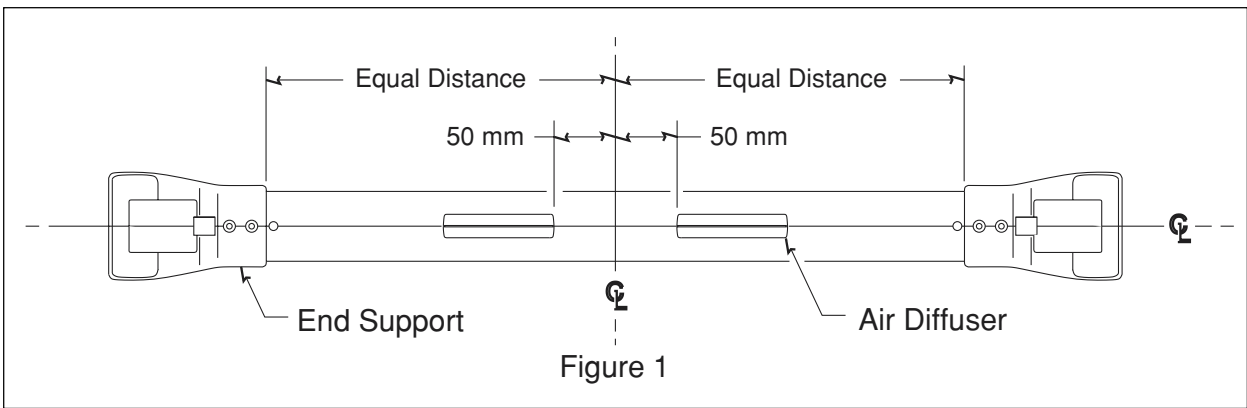

Figure 1
- 3) NOTE: Each Crossbar has a different centerline. Locate the Crossbar center by measuring the distance between both End Supports and dividing by 2. Mark with a grease pencil. (see Figure 1.)
- 4) Measure along the centerline of the Crossbar 50 mm on either side of the mark and again make a mark. (see Figure 1.)